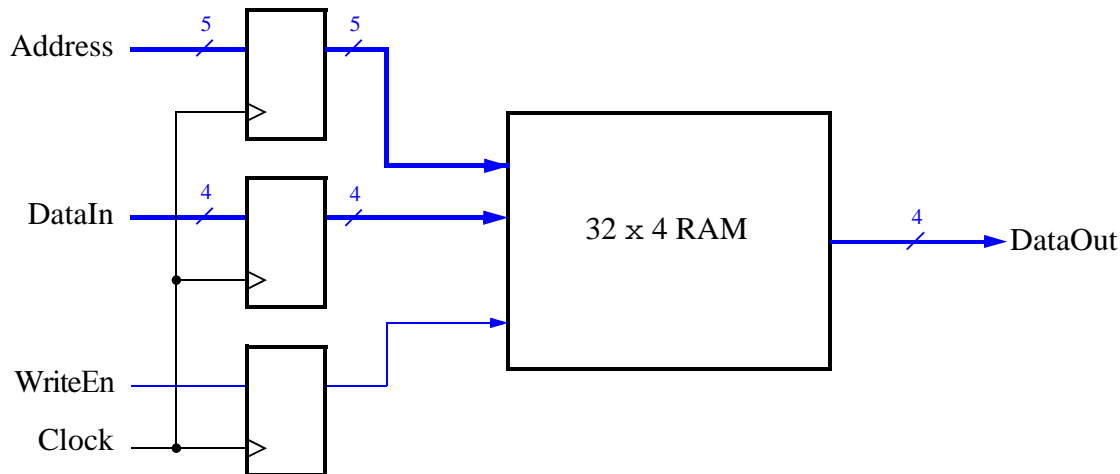

Figure 1: Schematic of the 32×4 embedded memory module.
The memory module we would like to create is shown in Figure 1. It consists of a memory block, an address register, a data register and a control register. You can see that the address, input data, and the write enable control signal are all stored in registers before being presented to the memory array. Using the registers means that the *DataOut* value will be stable for one clock cycle and allows the inputs to be changed after the rising clock edge in preparation for the next clock cycle. It is a small memory so that we can easily interact with it using the available switches and displays on the DE1-SoC board.
8. Examine the newly created Verilog file. Observe that it declares a module with the required ports as shown in Figure 1. You can now instantiate the module into any design. **(PRELAB)**